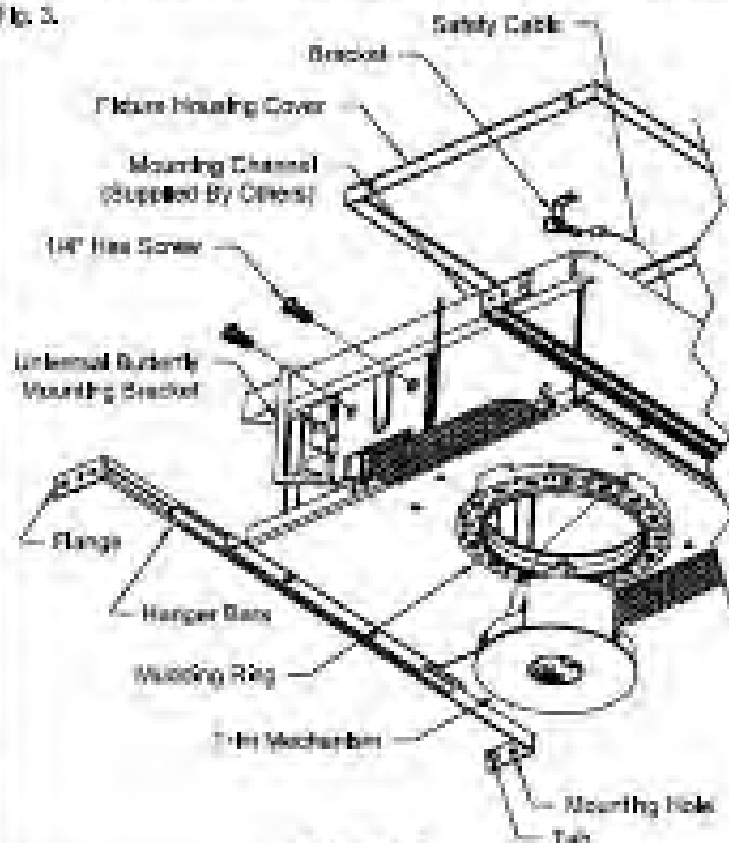
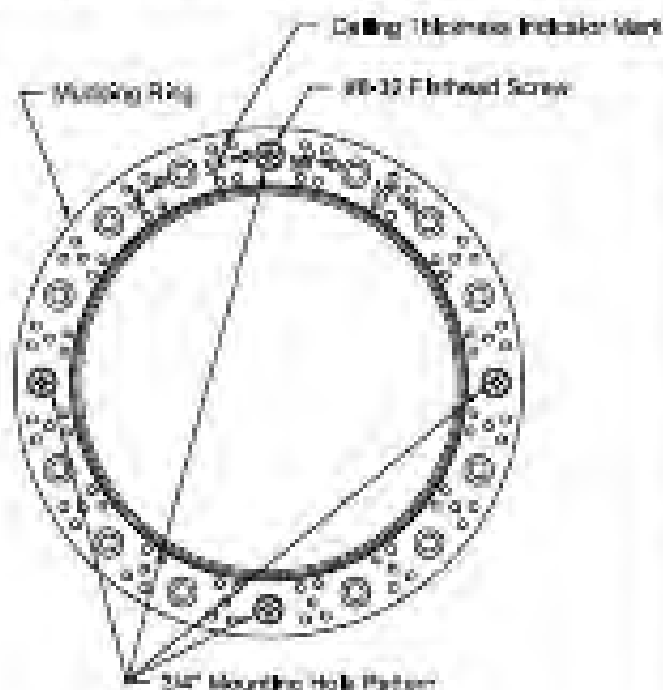

Figure 1
Figure 2
1. Fixture comes equipped with Universal Butterfly Mounting Brackets and can take common 1 inch or 1-1/2 inch Black Iron or Galvanized Mounting Channels (Supplied By Others). See Fig. 1.
3. Hammer Flanges to secure Hanger Bar Tabs to rafters. See Fig. 1.
4. Secure Hanger Bars using one (1) nail in Mounting Hole in each Flange.
5. Mudding Ring is sent unmounted from factory. Adjust Mudding Ring to applicable Ceiling thickness by aligning and securing to Fixture using applicable Mounting Hole Pattern as indicated by Ceiling Thickness Indicator Mark Imprinted on Mudding Ring. See Fig. 2.
5. Secure Mudding Ring using four (4) #8-22x1/2 inch Flathead Screws (for 1/2 inch, 5/8 inch and 3/4 inch Ceiling thickness) or four (4) #6-22x3/4 inch Flathead Screws (for 1 inch Ceiling thickness).
7. Adjust elevation of Fixture as Mudding Ring Edge will be flush with surface of finished Ceiling by loosening two (2) 1/4 inch Hex Screws on both Universal Mounting Brackets. See Fig. 1.
8. Tighten two (2) 1/4 inch Hex Screws on both Universal Butterfly Mounting Brackets to secure Fixture. See Fig. 1.
1. Connect Safety Cable attached to Banana Bracket on Trim Mechanism (See Fig. 1) to Fixture by inserting Safety Cable through opening in Fixture and inserting Snap Hook on end of Safety Cable into hole in Bracket attached to inside of Fixture Housing Cover (See Fig. 1).